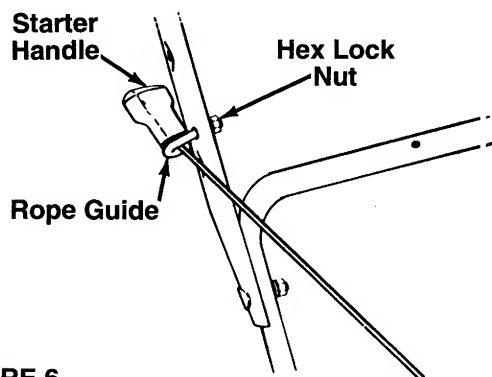

FIGURE 6.
3. Place the rope guide around the starter rope, so the rope guide is positioned as shown (bends downward slightly). Insert the rope guide through the side of the upper handle, and secure with hex lock nut. See figure 6.